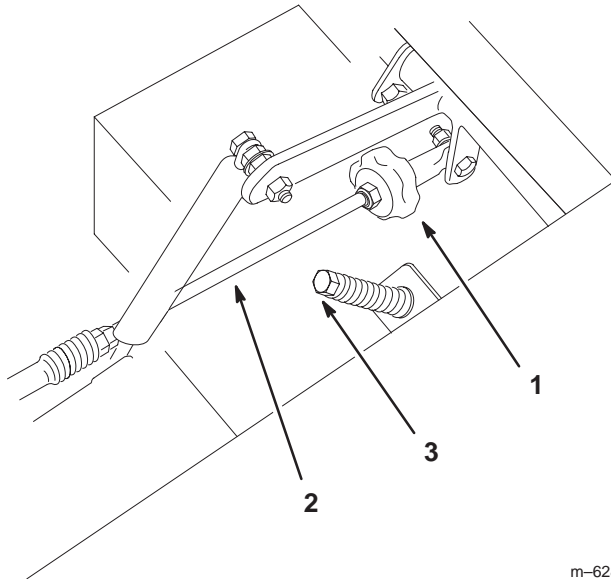

Figure 45
2. Adjust the pump rod length by rotating the knob in the appropriate direction until the wheel is still or slightly creeping in reverse (Fig. 45).